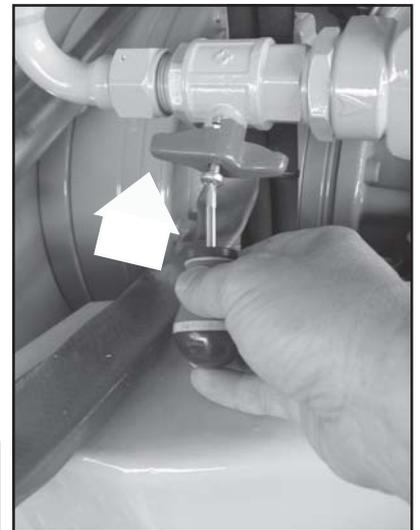
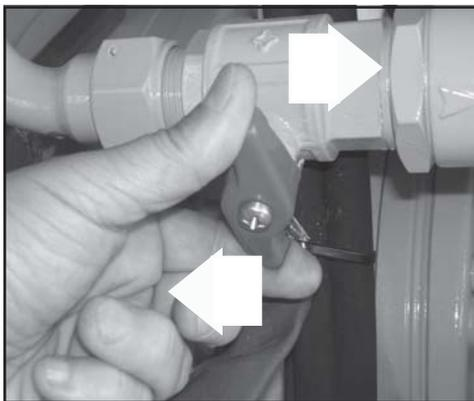

fig.3
fig.4
step 2 - screw the tap lever in place (**fig. 3**) and close the circuit (**fig. 4**). Replace the cartridge after filling it with oil.
- 5) Always replace one cutter and corresponding mounting screws (3, Fig. 2) at a time: ensure that the new cutter is in the same position and rotates as shown in fig. 4.